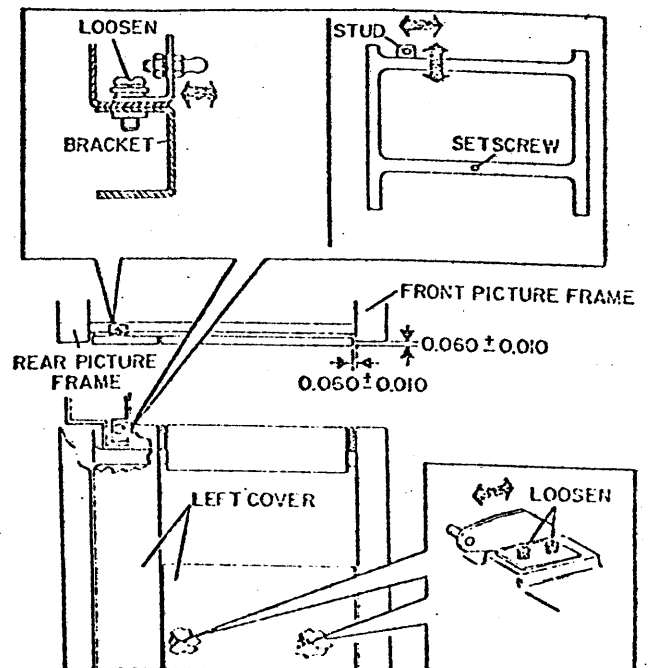

Fig. 3-230. Left Cover Adjustment
1. Loosen screws holding mounting bracket (Fig. 3-230).